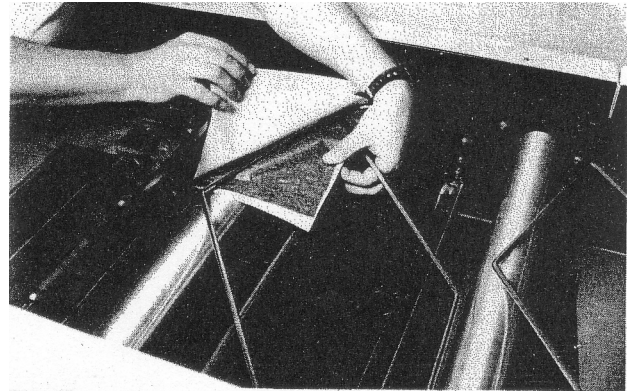

Fig. 3
4. Place the. bottom ply and the bottom carbon under the first deleaver rod. (See Fig. 3)